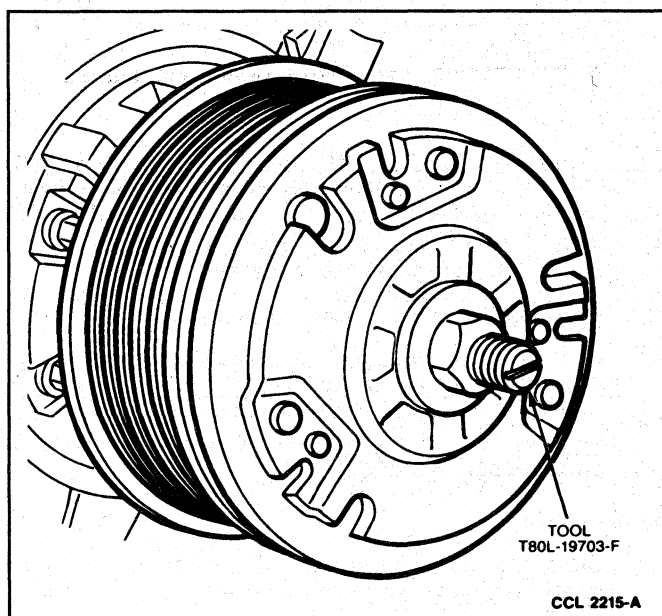

FIG. 8 Clutch Hub—Installation
4. Using the two thickest shims between the hub and the end of the compressor shaft, align the shaft key with the keyway in the hub and install the hub on the compressor shaft. Use Hub Replacer T80L-19703-F or equivalent to press the hub on the shaft if necessary (Fig. 8). Do not attempt to drive the hub on the compressor shaft as damage to the compressor will result. Use only the specified tool if the hub will not easily slide on the shaft.